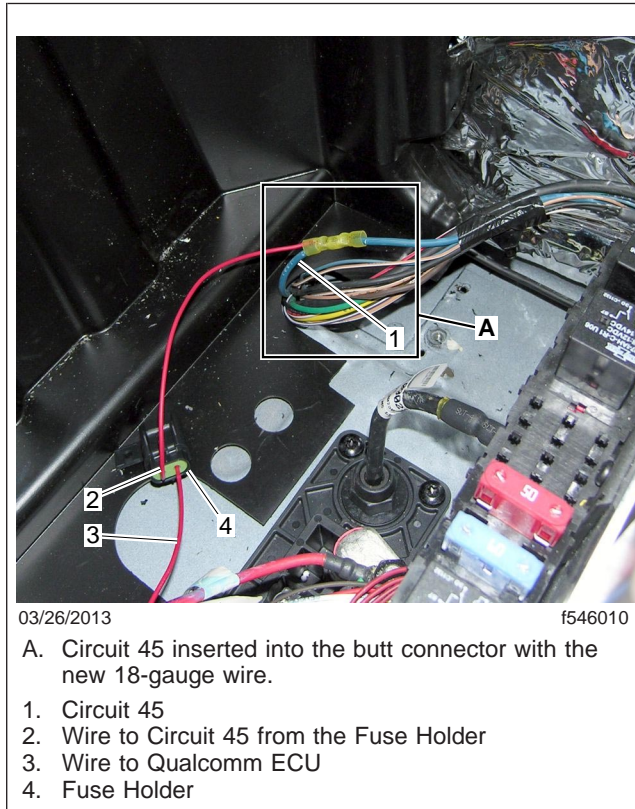

Fig. 6, Wire Re-Routed to Qualcomm ECU
10. Splice the new wire into circuit 45. See Fig. 6.